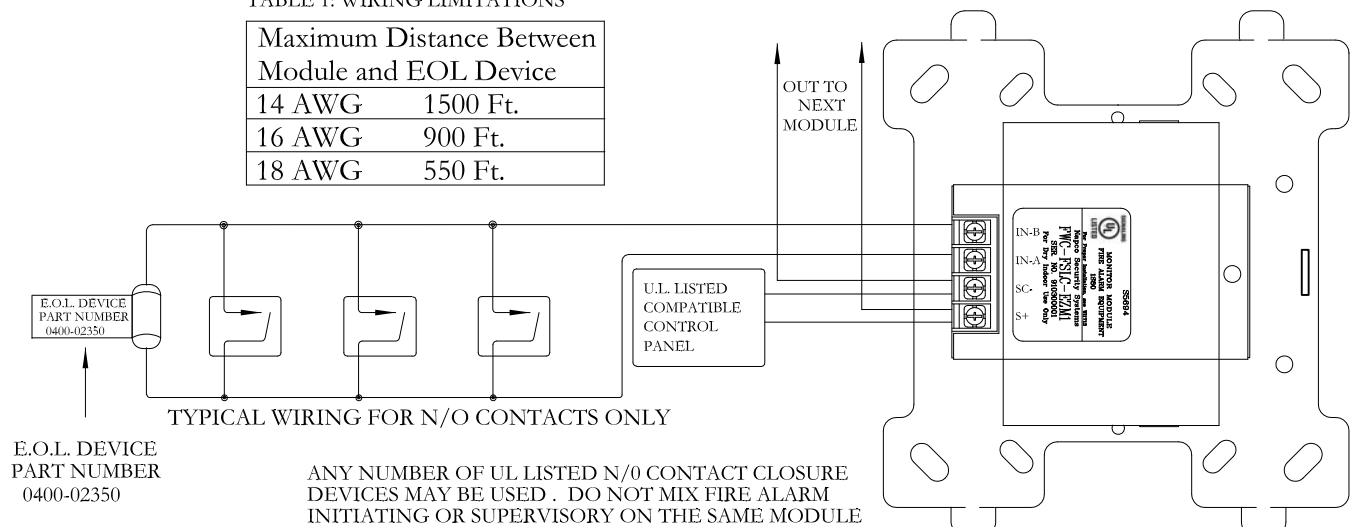

FIGURE 3.
- 1) Install module wiring in accordance with the job drawings and appropriate wiring diagram (see Fig. 3).